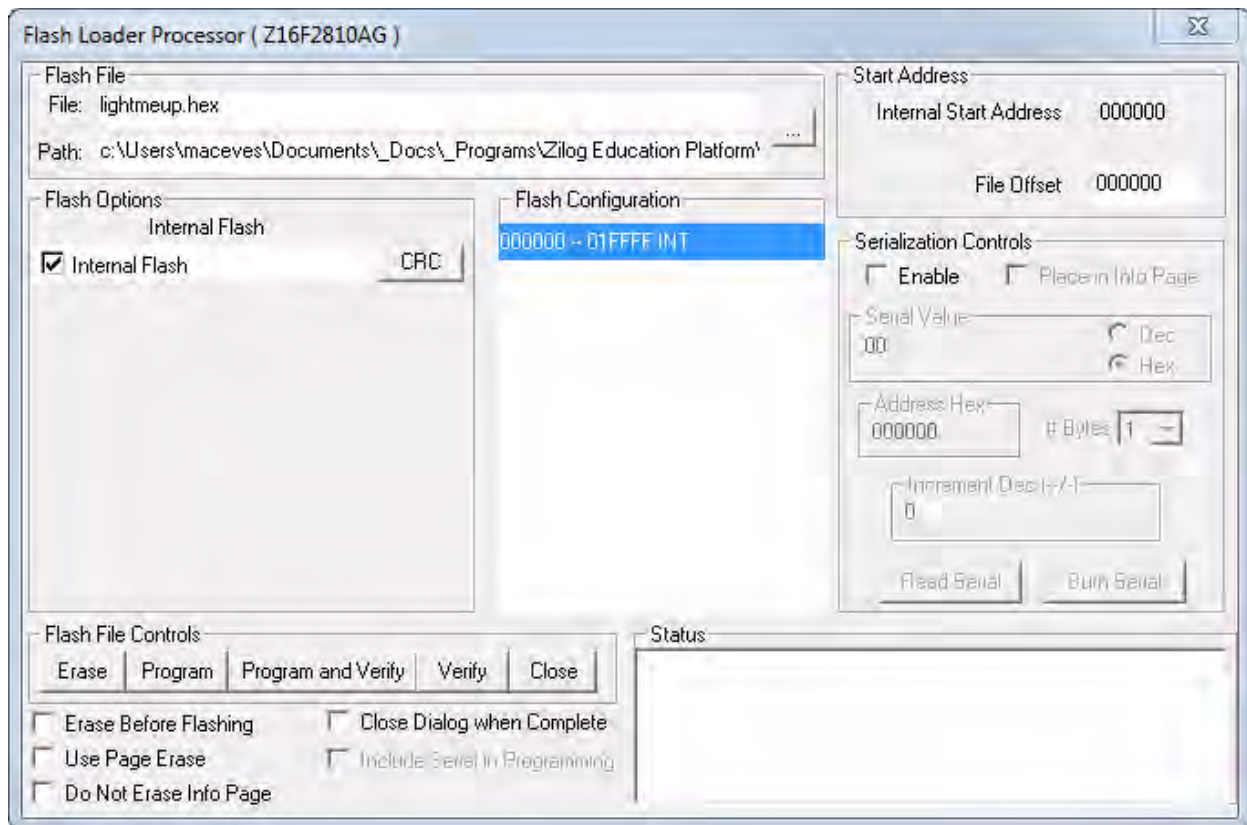

Figure 19. Flash Loader Screen
1. Click **Tools** on the taskbar, and select **Flash Loader**. The Flash Loader Processor dialog appears, as shown in Figure 19.